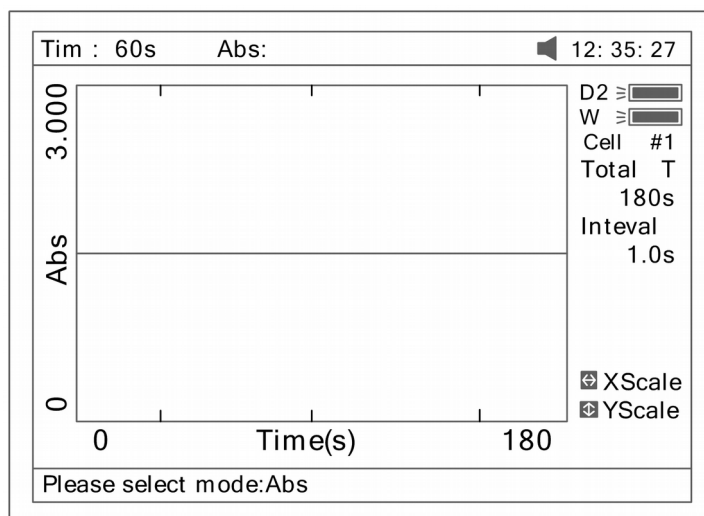

Fig 55
2. Select the test mode ("Abs" or "%T") by pressing **(F2)** (Fig 55).